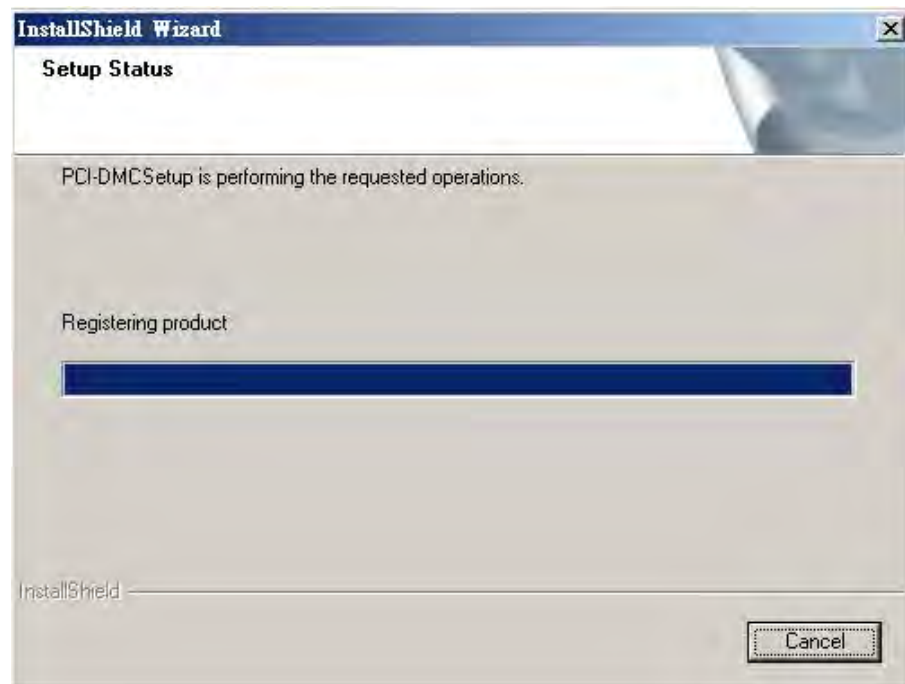

Figure 2.17
Step 5: As shown in Figure 2.17, the driver software is now being installed. Please do not interrupt the installation process.